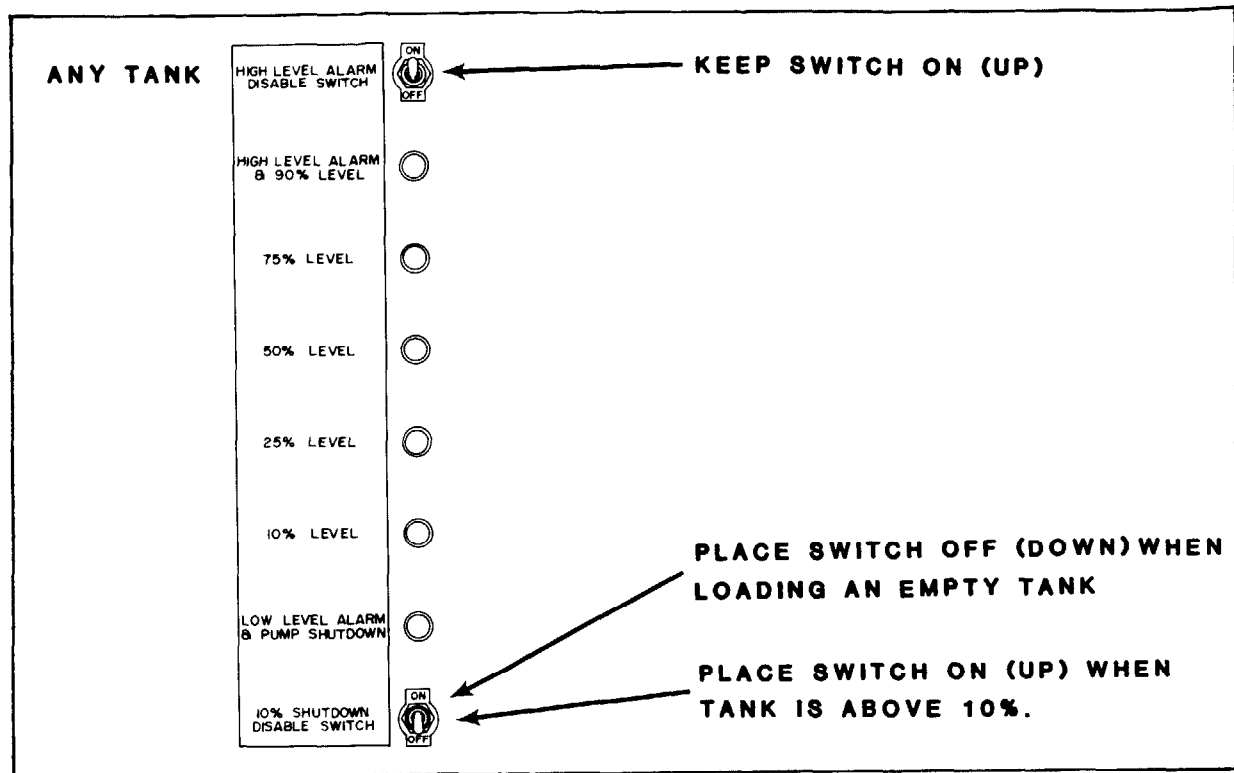

FIGURE 3-2
3.2.4 TANK LEVEL INDICATORS. When loading an empty barge, all low level alarm disable switches must be placed "off" (down). The high level alarm disable switches should be "on" (up). Figure 3-2 shows the indicator panel face switch arrangement to be used while a cargo tank is loaded.